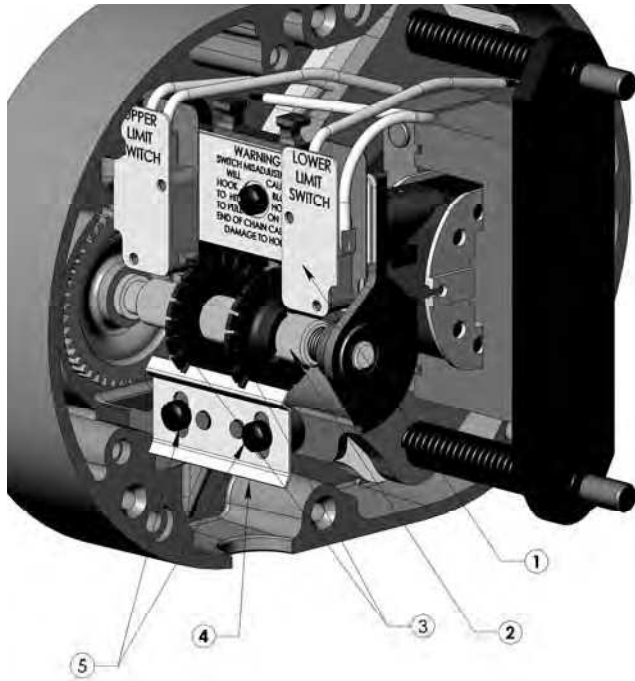

Figure 18. Limit Switches, Models B, C & F
4. Loosen the screws to permit guide plate to be moved out of engagement with the traveling nuts, refer to Figures 18 and 19.